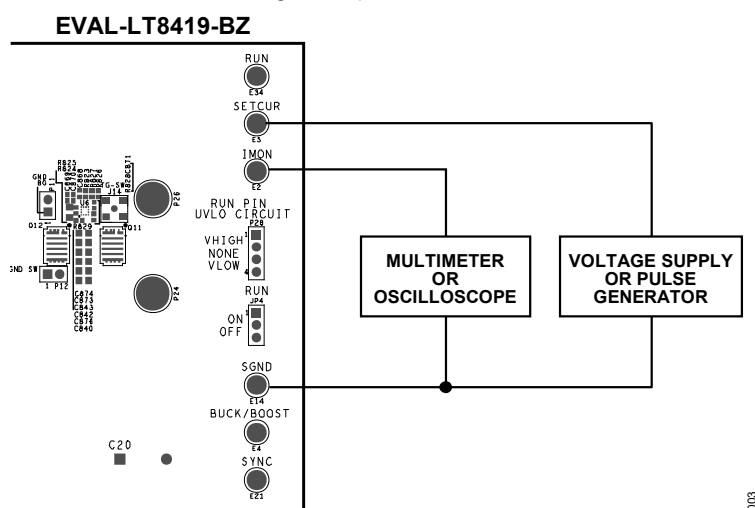

Figure 3. Using SETCUR Pin to Control Load Current
11. Connect a bench voltage source to the SETCUR pin as shown in Figure 3, which can be either a DC voltage or the output of a pulse generator.